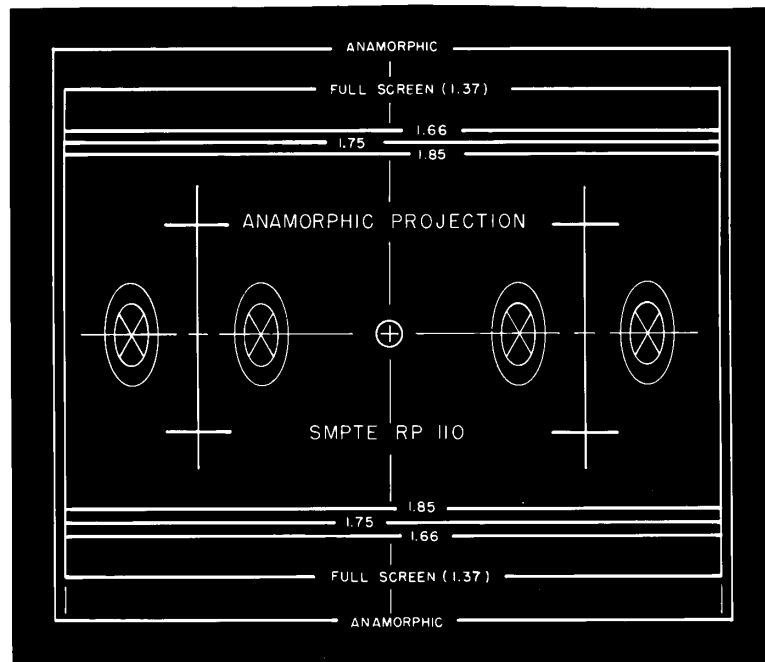

Figure 1 – Reproduction of test chart
3.1 A reproduction of the alignment chart is shown in figure 1.